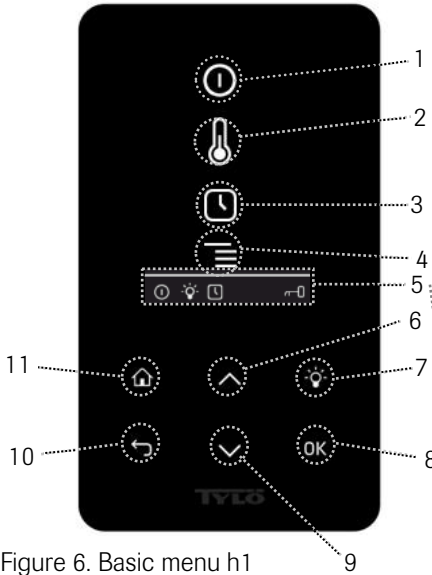

Figure 6. Basic menu h1
11. Home - Returns you to the basic menu (figure 6 or 7)